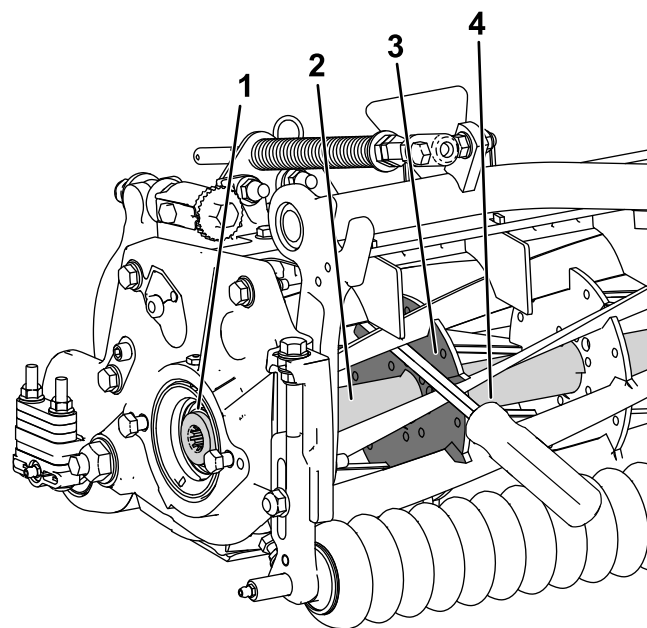

Figure 29
1. Insert a long-handled pry bar (recommended 3/8 x 12 inches with screwdriver handle) through the front of the cutting reel, closest to the side of the cutting unit that you will be torquing (Figure 29).
2. Place the pry bar against the weld side of the internal cutting reel reinforcement (Figure 29).